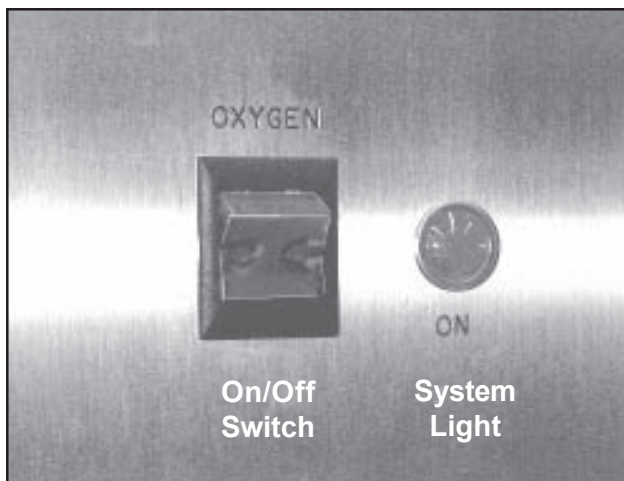
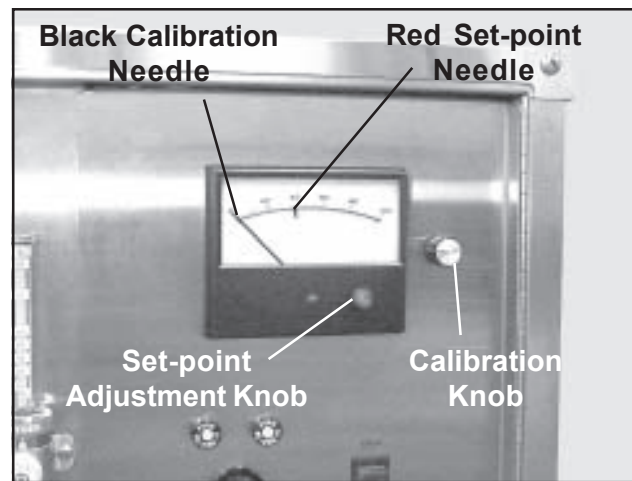

Figure 44. Oxygen On/Off Switch and System Light
Figure 45. Oxygen Concentration Meter and Controls
2. Push the oxygen on/off switch to On (Figure 44). The amber light in the switch comes on. If the black calibration needle in the oxygen concentration meter (Figure 45) is to the left of the red set-point needle, the red system light will also come on.
3. With the calibration knob (Figure 45), adjust the black calibration needle in the oxygen concentration meter to 20.5% (the percentage of oxygen in atmospheric air).
6. Push the oxygen on/off switch (Figure 44) to On. The amber light in the switch comes on.
2. Using the calibration knob (Figure 45), adjust the black calibration needle in the oxygen concentration meter to 20.5% (the percentage of oxygen in atmospheric air).